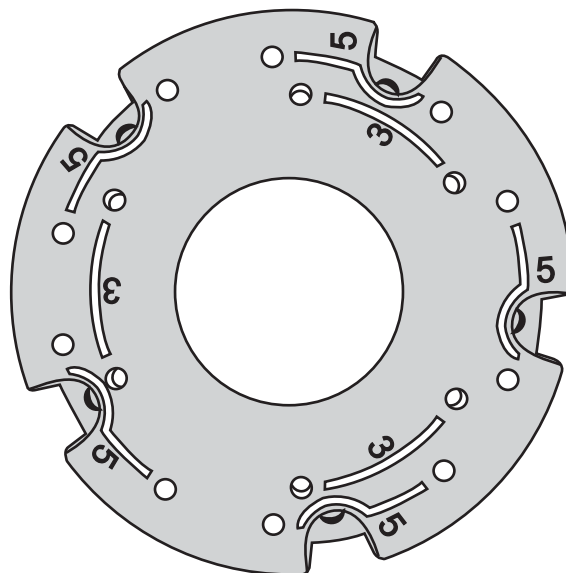

Figure 5A
**NOTE:** This fan includes is supplied with two types of blades installation. Please reference the important diagram (Fig. 5A) when attaching your fan blades.